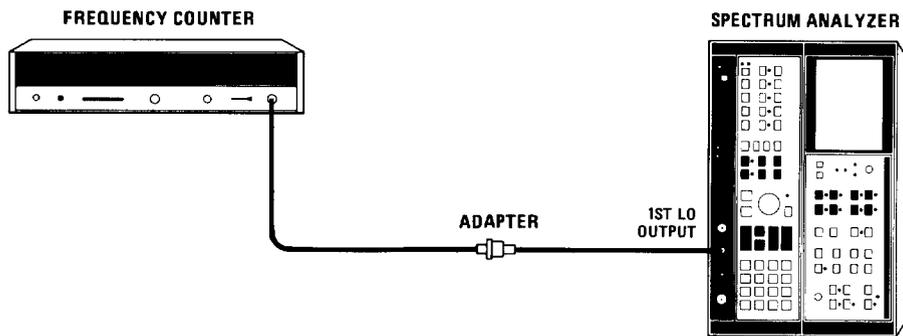

FIGURE 46. YTO MAIN COIL DRIVER ADJUSTMENT SETUP
40. Connect frequency counter to front-panel 1st LO OUTPUT as shown in Figure 46.